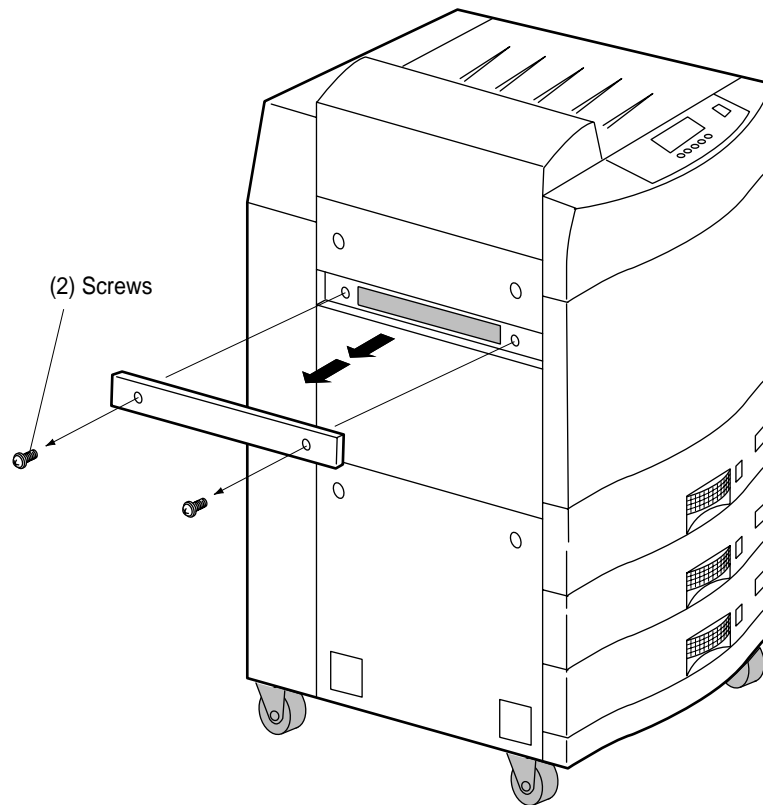

Figure 4-23 Removing Upper Cover
2. Remove the upper cover from the left side of the printer (by removing two screws), as shown in Figure 4-23.